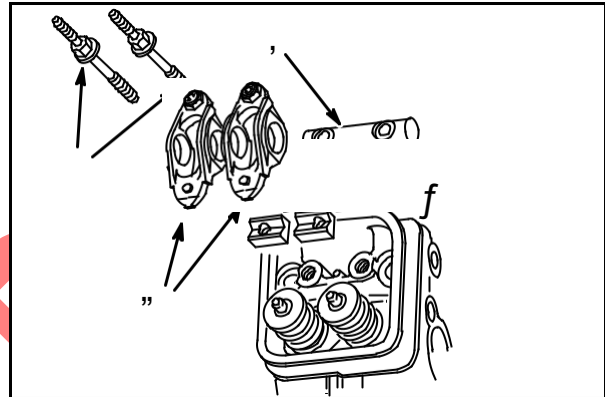

Fig. 22
NOTE: Rocker shaft support (3) holes are offset. Install with holes facing ends of rocker shaft, **Fig. 22**.
Assemble rocker arms, shaft, supports and studs (1) and install on cylinder head, **Fig. 22**. Torque studs to **140 in. lbs. (16 Nm)**.